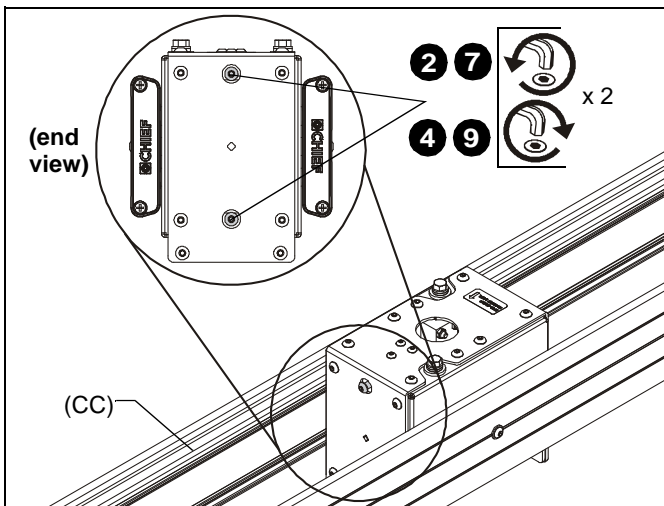

Figure 1
2. Loosen two 5/16 x 3-1/2" button head cap screws on end of housing until they no longer extend into the extension column area inside housing, but do NOT remove the screws completely. (See Figure 1)
4. Tighten two button head screws loosened in Step 2. (See Figure 1)
7. Loosen two button head screws tightened in Step 4, and slide ceiling mount down extension column until it rests on the bottom coupling (B). (See Figure 1)
9. Re-tighten two button head screws against column. (See Figure 1)